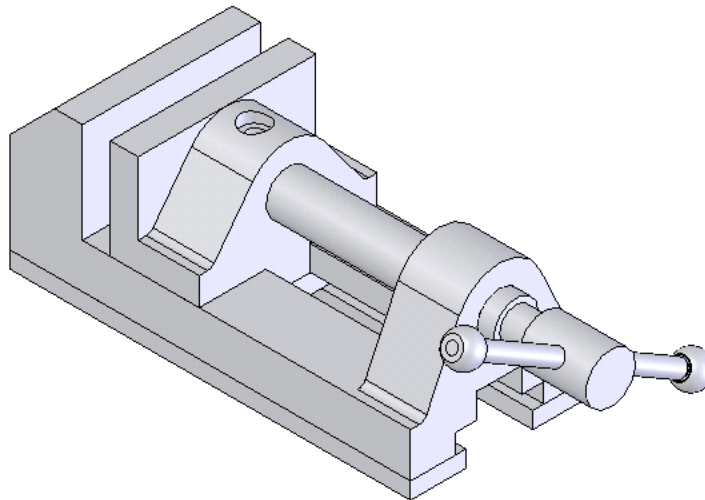

Figure 10-71 Assembly after assembling the Vice Body, Vice Jaw, Jaw Screw, Screw Bar, Clamping Plate, Base Plate, and Bar Globes
6. Similarly, assemble the Screw Bar, Support Plates, and Bar Globes. The assembly after assembling all these components is shown in Figure 10-71.